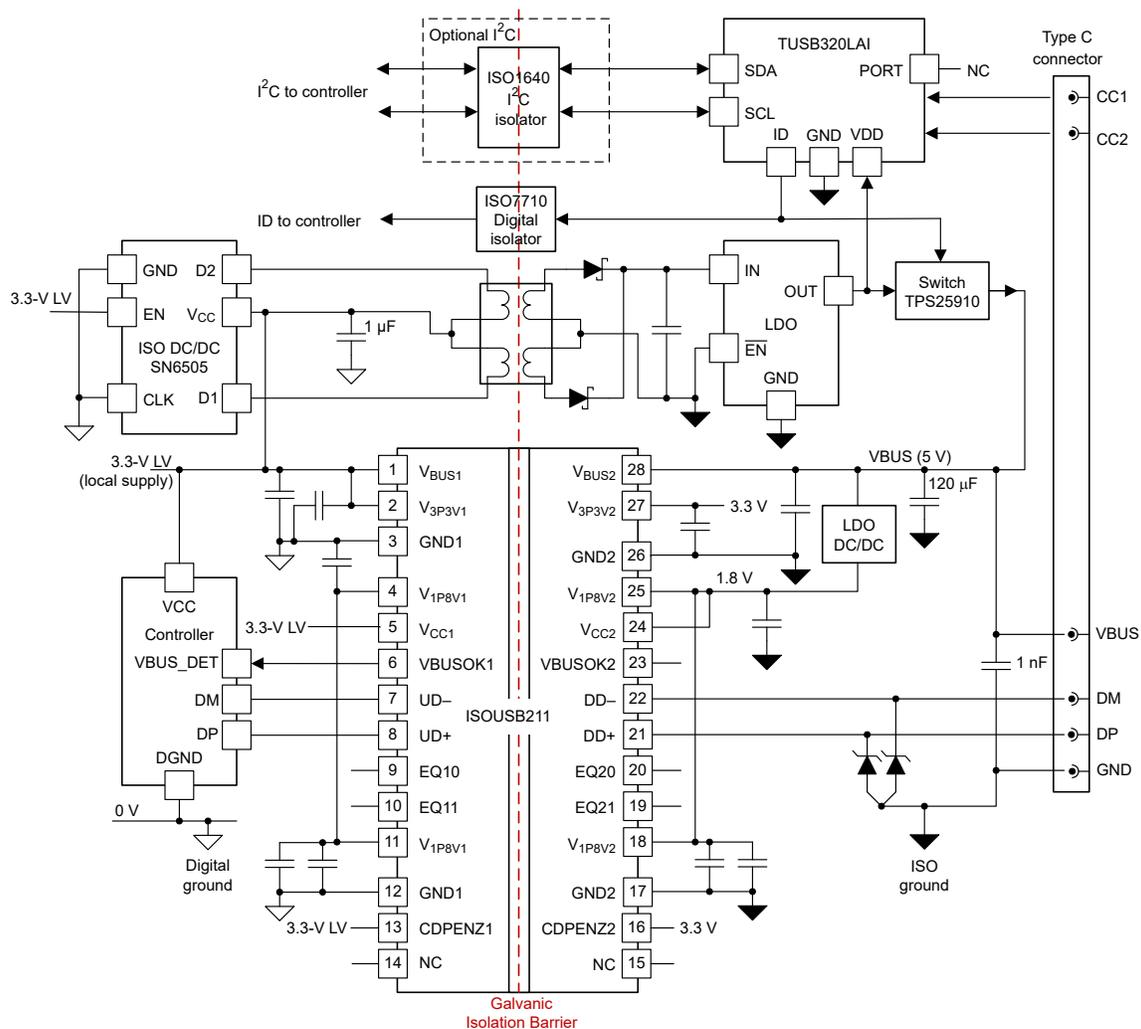

Figure 4. Isolated USB DRP implementation with the ISOUSB211 and TUSB320
Most industrial applications are self-powered; in other words, they do not need to draw power from the VBUS when in peripheral mode. Therefore, **Figure 3** and **Figure 4** only show a unidirectional isolated power supply from the controller side to the connector side. Dual-role applications that need to draw power from the VBUS (for example, battery-powered applications) may require a bidirectional isolated DC/DC power supply, battery-charging circuitry and additional controls.
**Figure 4** shows the implementation of a self-powered isolated USB Type-C port with actual components. These include the Texas Instruments **ISOUSB211** isolated USB repeater, **SN6505** 5-W push-pull transformer driver,